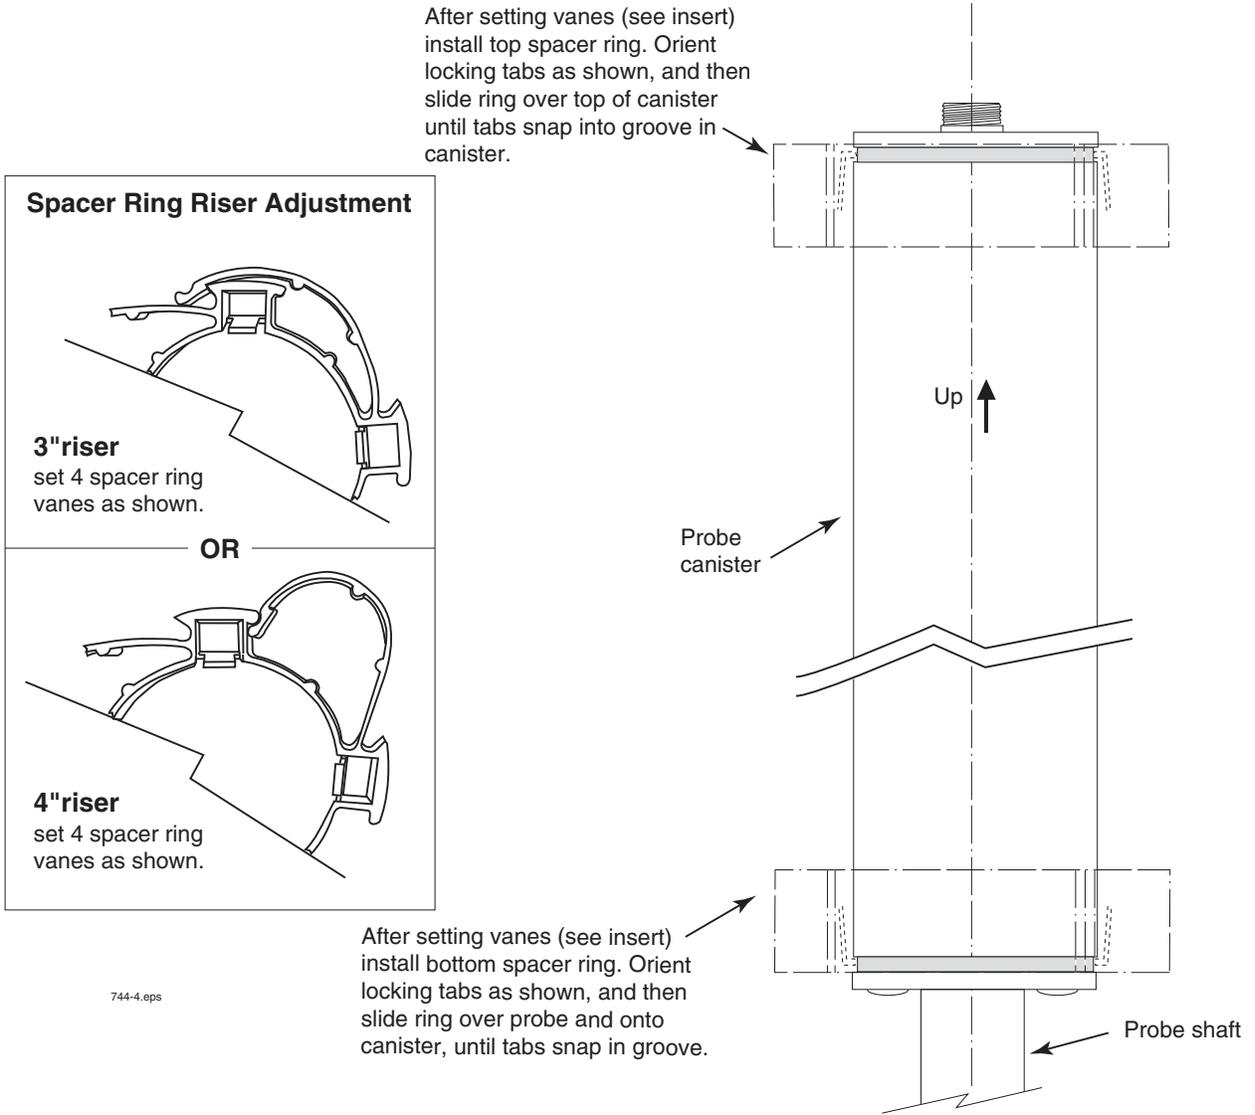

Figure 8. Installing Probe Canister Spacer Rings
2. Set the spacer vanes for a 3- or 4-inch riser (see Figure 8) as required. Install the two spacer rings onto the probe canister as shown in the figure below. Note: you must slide the bottom spacer over the probe and onto the lower end of the canister.